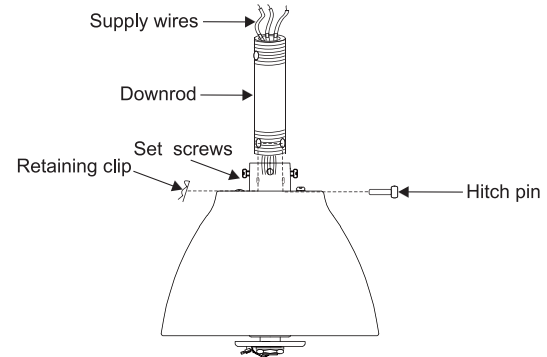

Fig. 10
Step 7. Loosen the two set screws and remove the hitch pin and retaining clip from the coupling on top of the motor assembly. (Fig.10)
Next, replace the hitch pin and retaining clip. Tighten both set screws. (Fig.10)